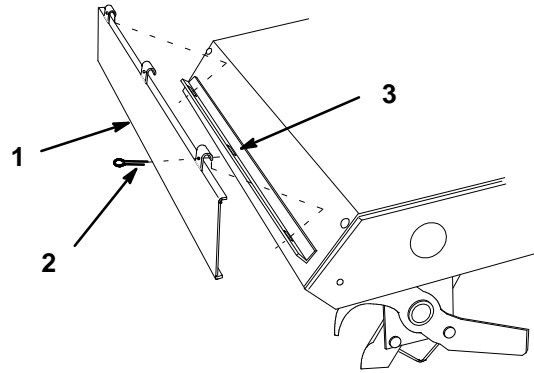

Figure 2
3. Hook the panel guard into the slots on the end of the tiller housing (Fig. 2). Insert (3) cotter pins and bend the ends of the pins to secure the panel guard.